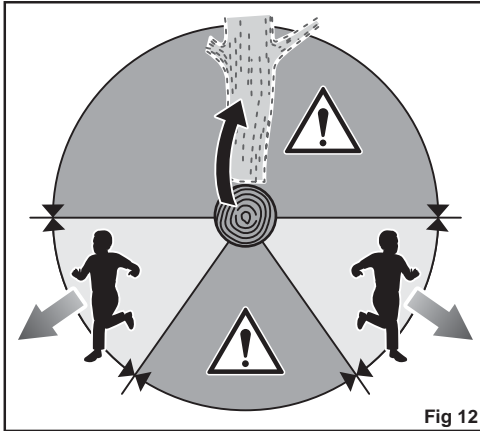

Fig 12
- Before any cuts are started, an escape path should be planned and cleared as necessary before cuts are started. The escape path should extend back and diagonally to the rear of the expected line of fall. See Fig. 12.